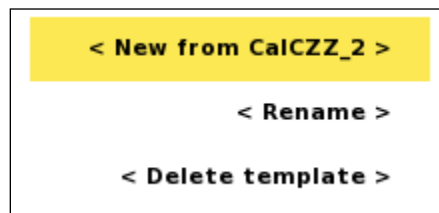

Figure 27 Template Option menu with the New from item highlighted
- Press <Options> and the option menu of Figure 27 will be shown